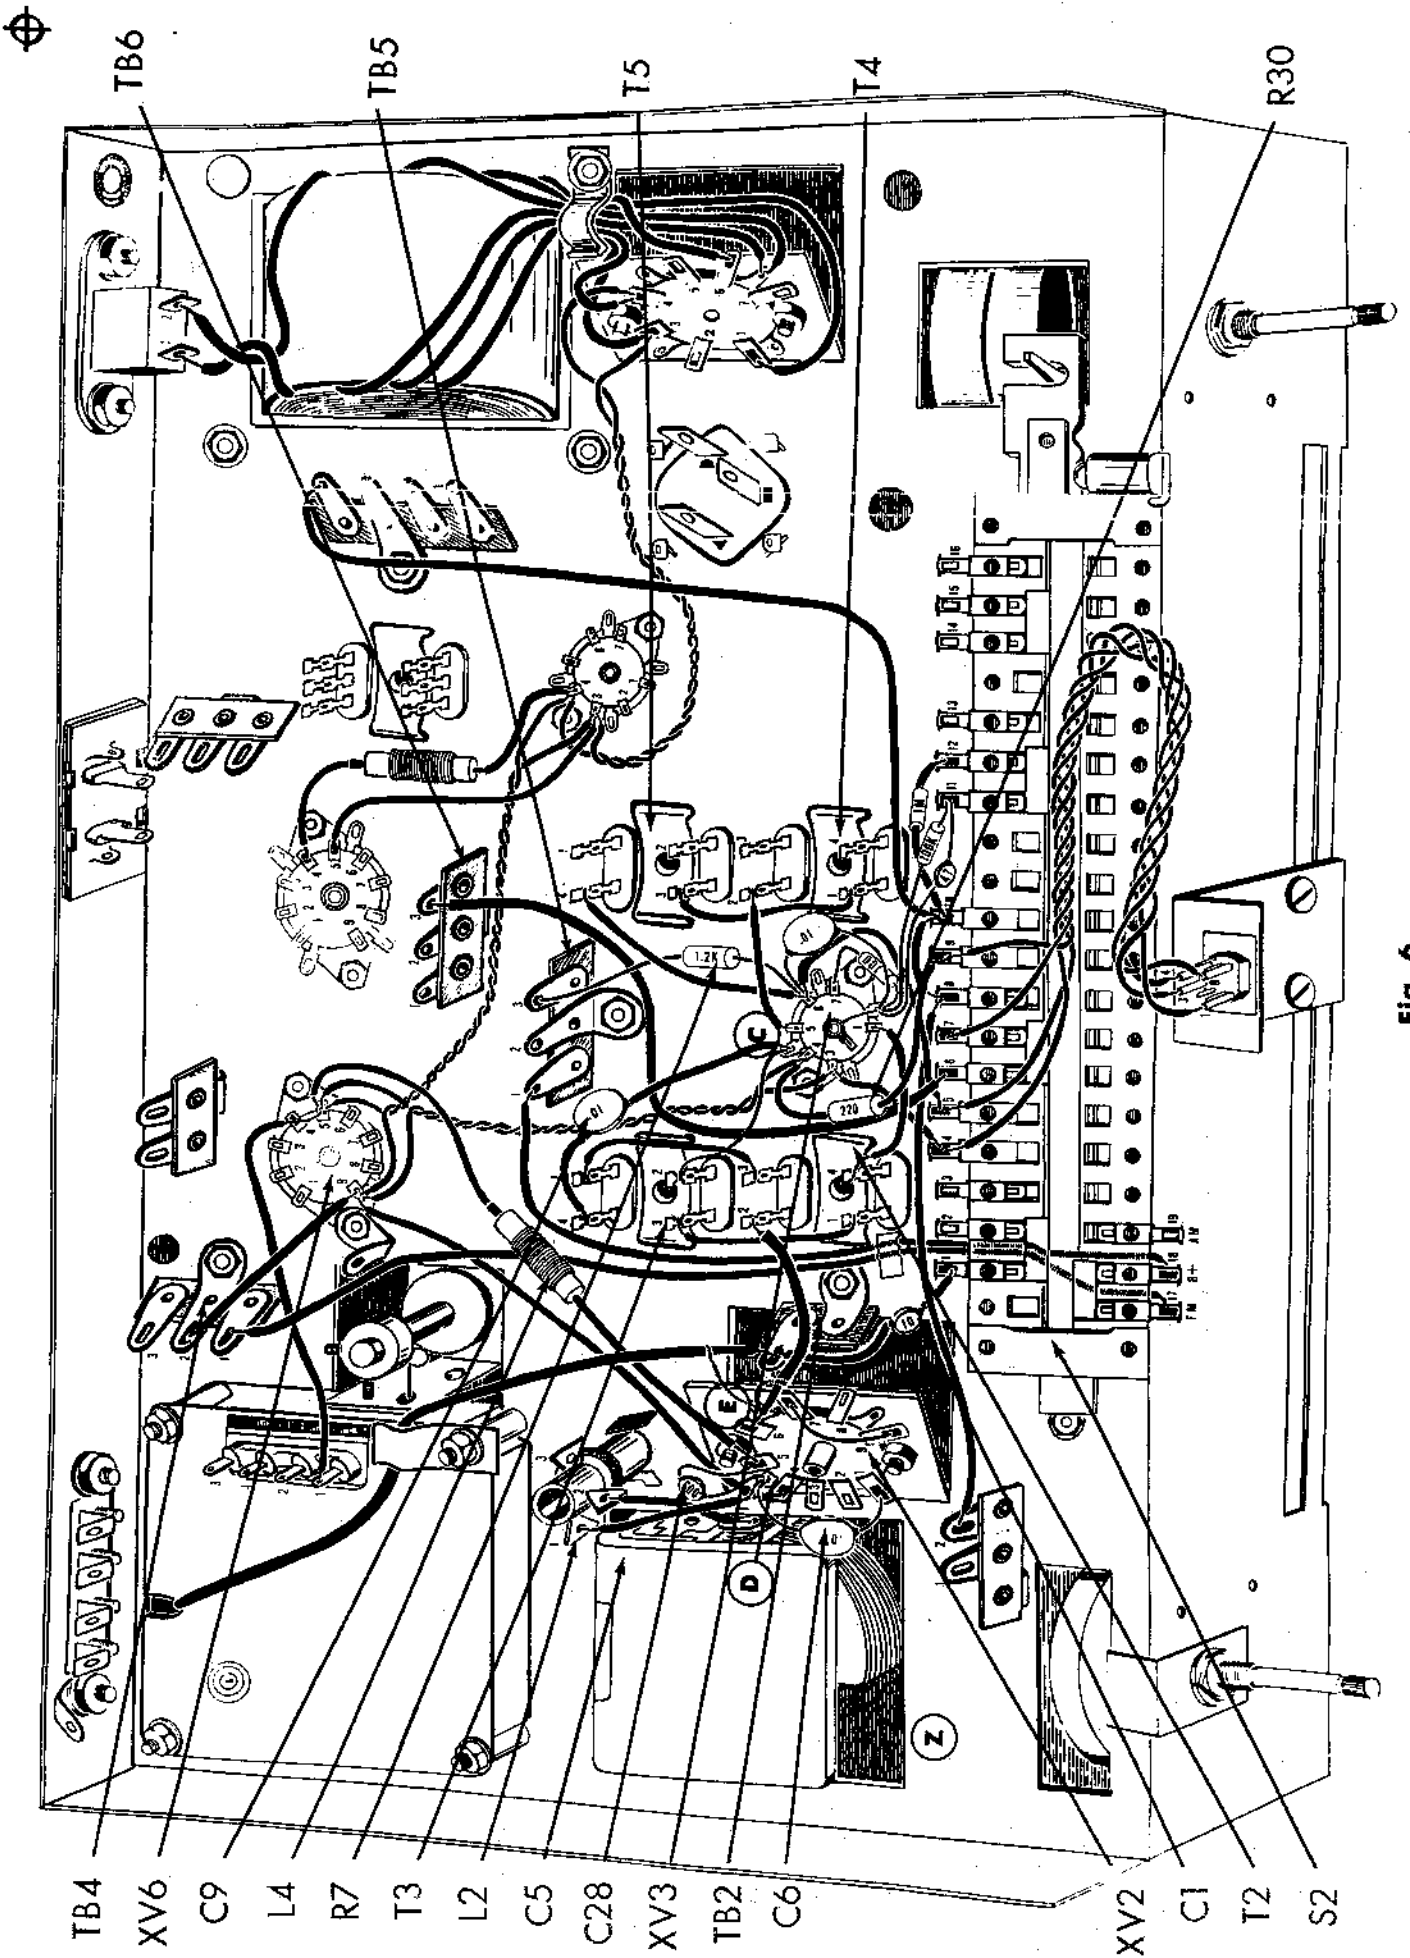

Fig. 6
- (1) 1. Fig. 6. Connect a 1 3/4" piece of red wire from XV3-6 (C) to T5-4 (S1).
- (1) 2. Fig. 6. Connect a 5" piece of violet wire from S2-6 (S1) to TB6-3 (C). Run the wire along chassis as shown.
- (1) 3. Fig. 6. Cut both leads on a 1.2K (brown, red, red, silver) 1 watt resistor, R7, to 3/4". Connect from XV3-6 (S4) to TB5-3 (C). Dress the resistor close to the chassis.
- (1) 4. Fig. 6. Connect a 1 1/2" piece of red wire from T4-1 (S1) to T5-3 (S1).
- (1) 5. Fig. 6. Connect a 1 1/2" piece of red wire from XV3-5 (S1) to T4-2 (S1).
- (1) 6. Fig. 6. Connect a 1 1/2" piece of white wire from XV3-1 (S1) to T2-4 (S1).
- (1) 7. Fig. 6. Bend XV3-2 down to the center post on socket XV3 and solder this pin to the center post.
- (1) 8. Fig. 6. Cut both leads on a 220Ω (red, red, brown, gold) 1 watt 5% resistor, R30, to 3/4". Cover each lead with a 1/2" piece of spaghetti. Connect from XV3-4 (S2) to S2-9 (S2). Dress the resistor close to the chassis.
- (1) 9. Fig. 6. Connect one end of a 6 1/2" piece of red wire to TB4-1 (C). Run this lead along the chassis, and under switch S2, as shown. Connect the other end of this wire to S2-17 (S1).
- (1) 10. Fig. 6. Connect one end of a 6 1/2" piece of red wire to TB5-1 (C). Run the lead along the chassis and under the switch S2, as shown. Connect the other end of this wire to S2-18 (C). Tape the two pieces of wire (connected in step 9 and 10) to the chassis, as shown, with a small piece of scotch or masking tape.
- (1) 11. Fig. 6. Connect a 1 1/4" piece of bare wire from ground lug "C" (C) at XV3 to T3-2 (S1).
- (1) 12. Fig. 6. Connect a 1 1/2" piece of white wire from T3-1 (S1) to T2-3 (S1).
- (1) 13. Fig. 6. Cut one lead on a .01 mfd (10K or 10,000 mmf) disc capacitor, C9 to 1 1/4". Cover this lead with a 1" piece of spaghetti and connect to ground lug "C" (S2) at XV3. Cut the second lead to 1/2" and cover with a 1/4" piece of spaghetti. Connect the lead to T3-4 (C).
- (1) 14. Fig. 6. Connect a 1 1/2" piece of red wire from T2-1 (S1) to T3-3 (S1).
- (1) 15. Fig. 6. Cover each lead on RF choke L4 with a 1 1/4" piece of spaghetti. Connect from XV6-5 (S4) to XV2-5 (C). Dress the choke close to the chassis.
- (1) 16. Fig. 6. Cut both leads on a .005mfd (5K or 5000 mmf) 10% disc capacitor, C28, to 1/2". Connect from XV2-5 (S2) to ground lug "D" (C) on XV2.
- (1) 17. Fig. 6. Connect one end of a 1 3/4" piece of white wire to L2-2 (C). Run the other end of the lead through the rectangular cutout "Z" near the variable capacitor C5. Connect the other end of the wire to C5-1 (S1).
- (1) 18. Fig. 6. Connect the outer metal shield of the shielded lead coming from the FM Front End Assembly to ground lug "E" (C) at XV2 and the inner conductor to TB2 (C).
- (1) 19. Fig. 6. Cut both leads on a 10 mmf disc capacitor, C1, to 3/4". Cover each lead with a 1/2" piece of spaghetti. Connect from TB2 (S2) to S2-1 (S1).
- (1) 20. Fig. 6. On the short piece of shielded cable supplied, one end has two leads (the inner conductor and the shield) and the second end has one lead (only the inner conductor). From the end with the two leads, twist the outer shield strands together. Connect the shield strands to ground lug "E" (S2) at XV2 and the inner conductor to XV2-6 (S1). From the other end of this cable, connect the inner conductor to T2-2 (S1).
- (1) 21. Fig. 6. Cut both leads on a .01 mfd (10K or 10,000 mmf) disc capacitor, C6 to 1/2". Connect from XV2-1 (C) to ground lug "D" (C) on XV2.
- (1) 22. Fig. 6. Connect a 1 1/2" piece of black wire from L2-1 (S1) to ground lug "D" (C) on XV2.
- (1) 23. Fig. 6. Connect a 3/4" piece of bare wire from XV2-7 (C) to XV2-9 (S1).